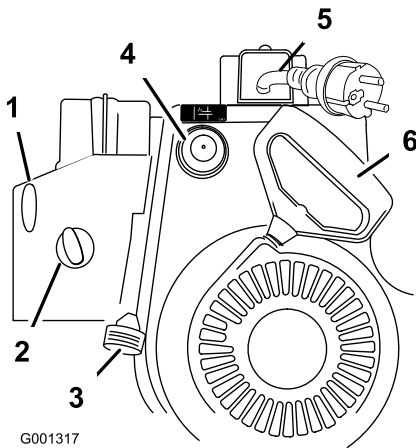

Figure 14
7. Start the snowthrower using the recoil starter or the electric starter (Figure 14).